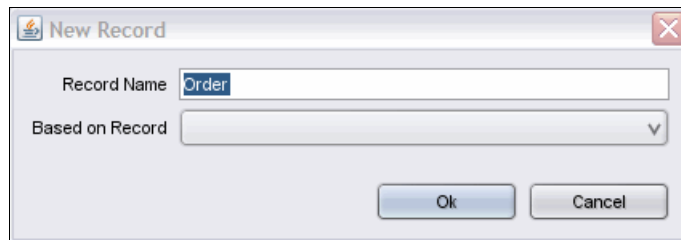

Figure 12-19 Creating a new record in the Order flat file schema
4. Name the new record Order, and then click **OK**, as shown in Figure 12-19.